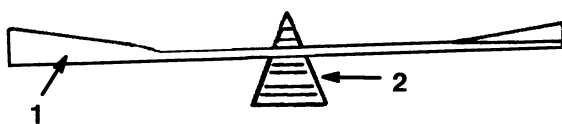

Figure 25
2. Check the balance of the blade by putting it on a blade balancer (Fig. 25). If the blade stays in a horizontal position, the blade is balanced and can be used. If the blade is not balanced, file some metal off the back side of the blade. Repeat this procedure until the blade is balanced.